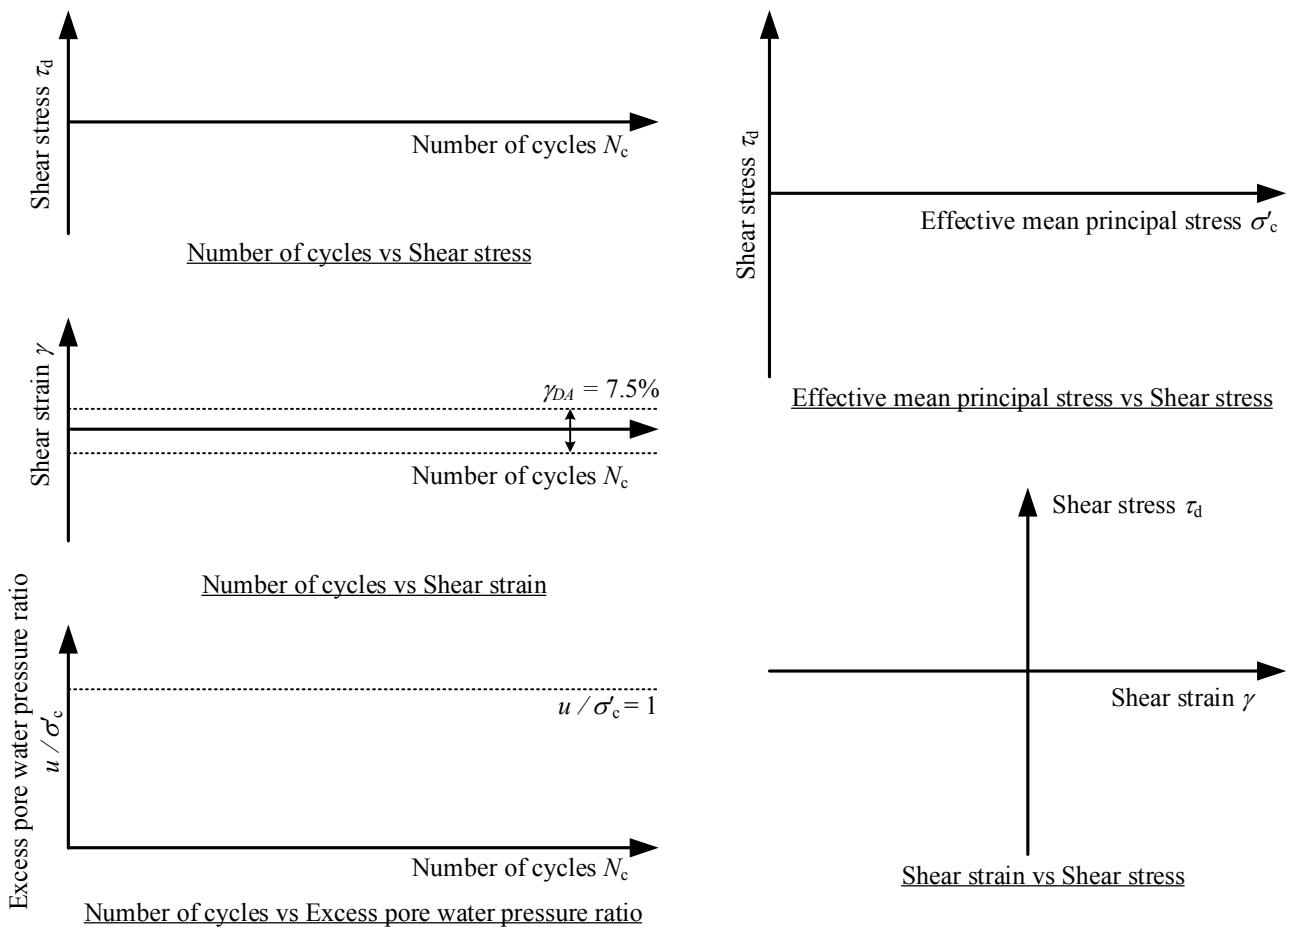

Figure 5
(2) Answer the following questions regarding the wave propagation and liquefaction.
- (2-1) An undrained cyclic torsional shear test was performed on saturated loose sand with a constant shear stress ratio for which liquefaction occurred at a certain number of repetitions was judged. Draw the schematic view of the experimental results on all five graphs shown in Figure 5.